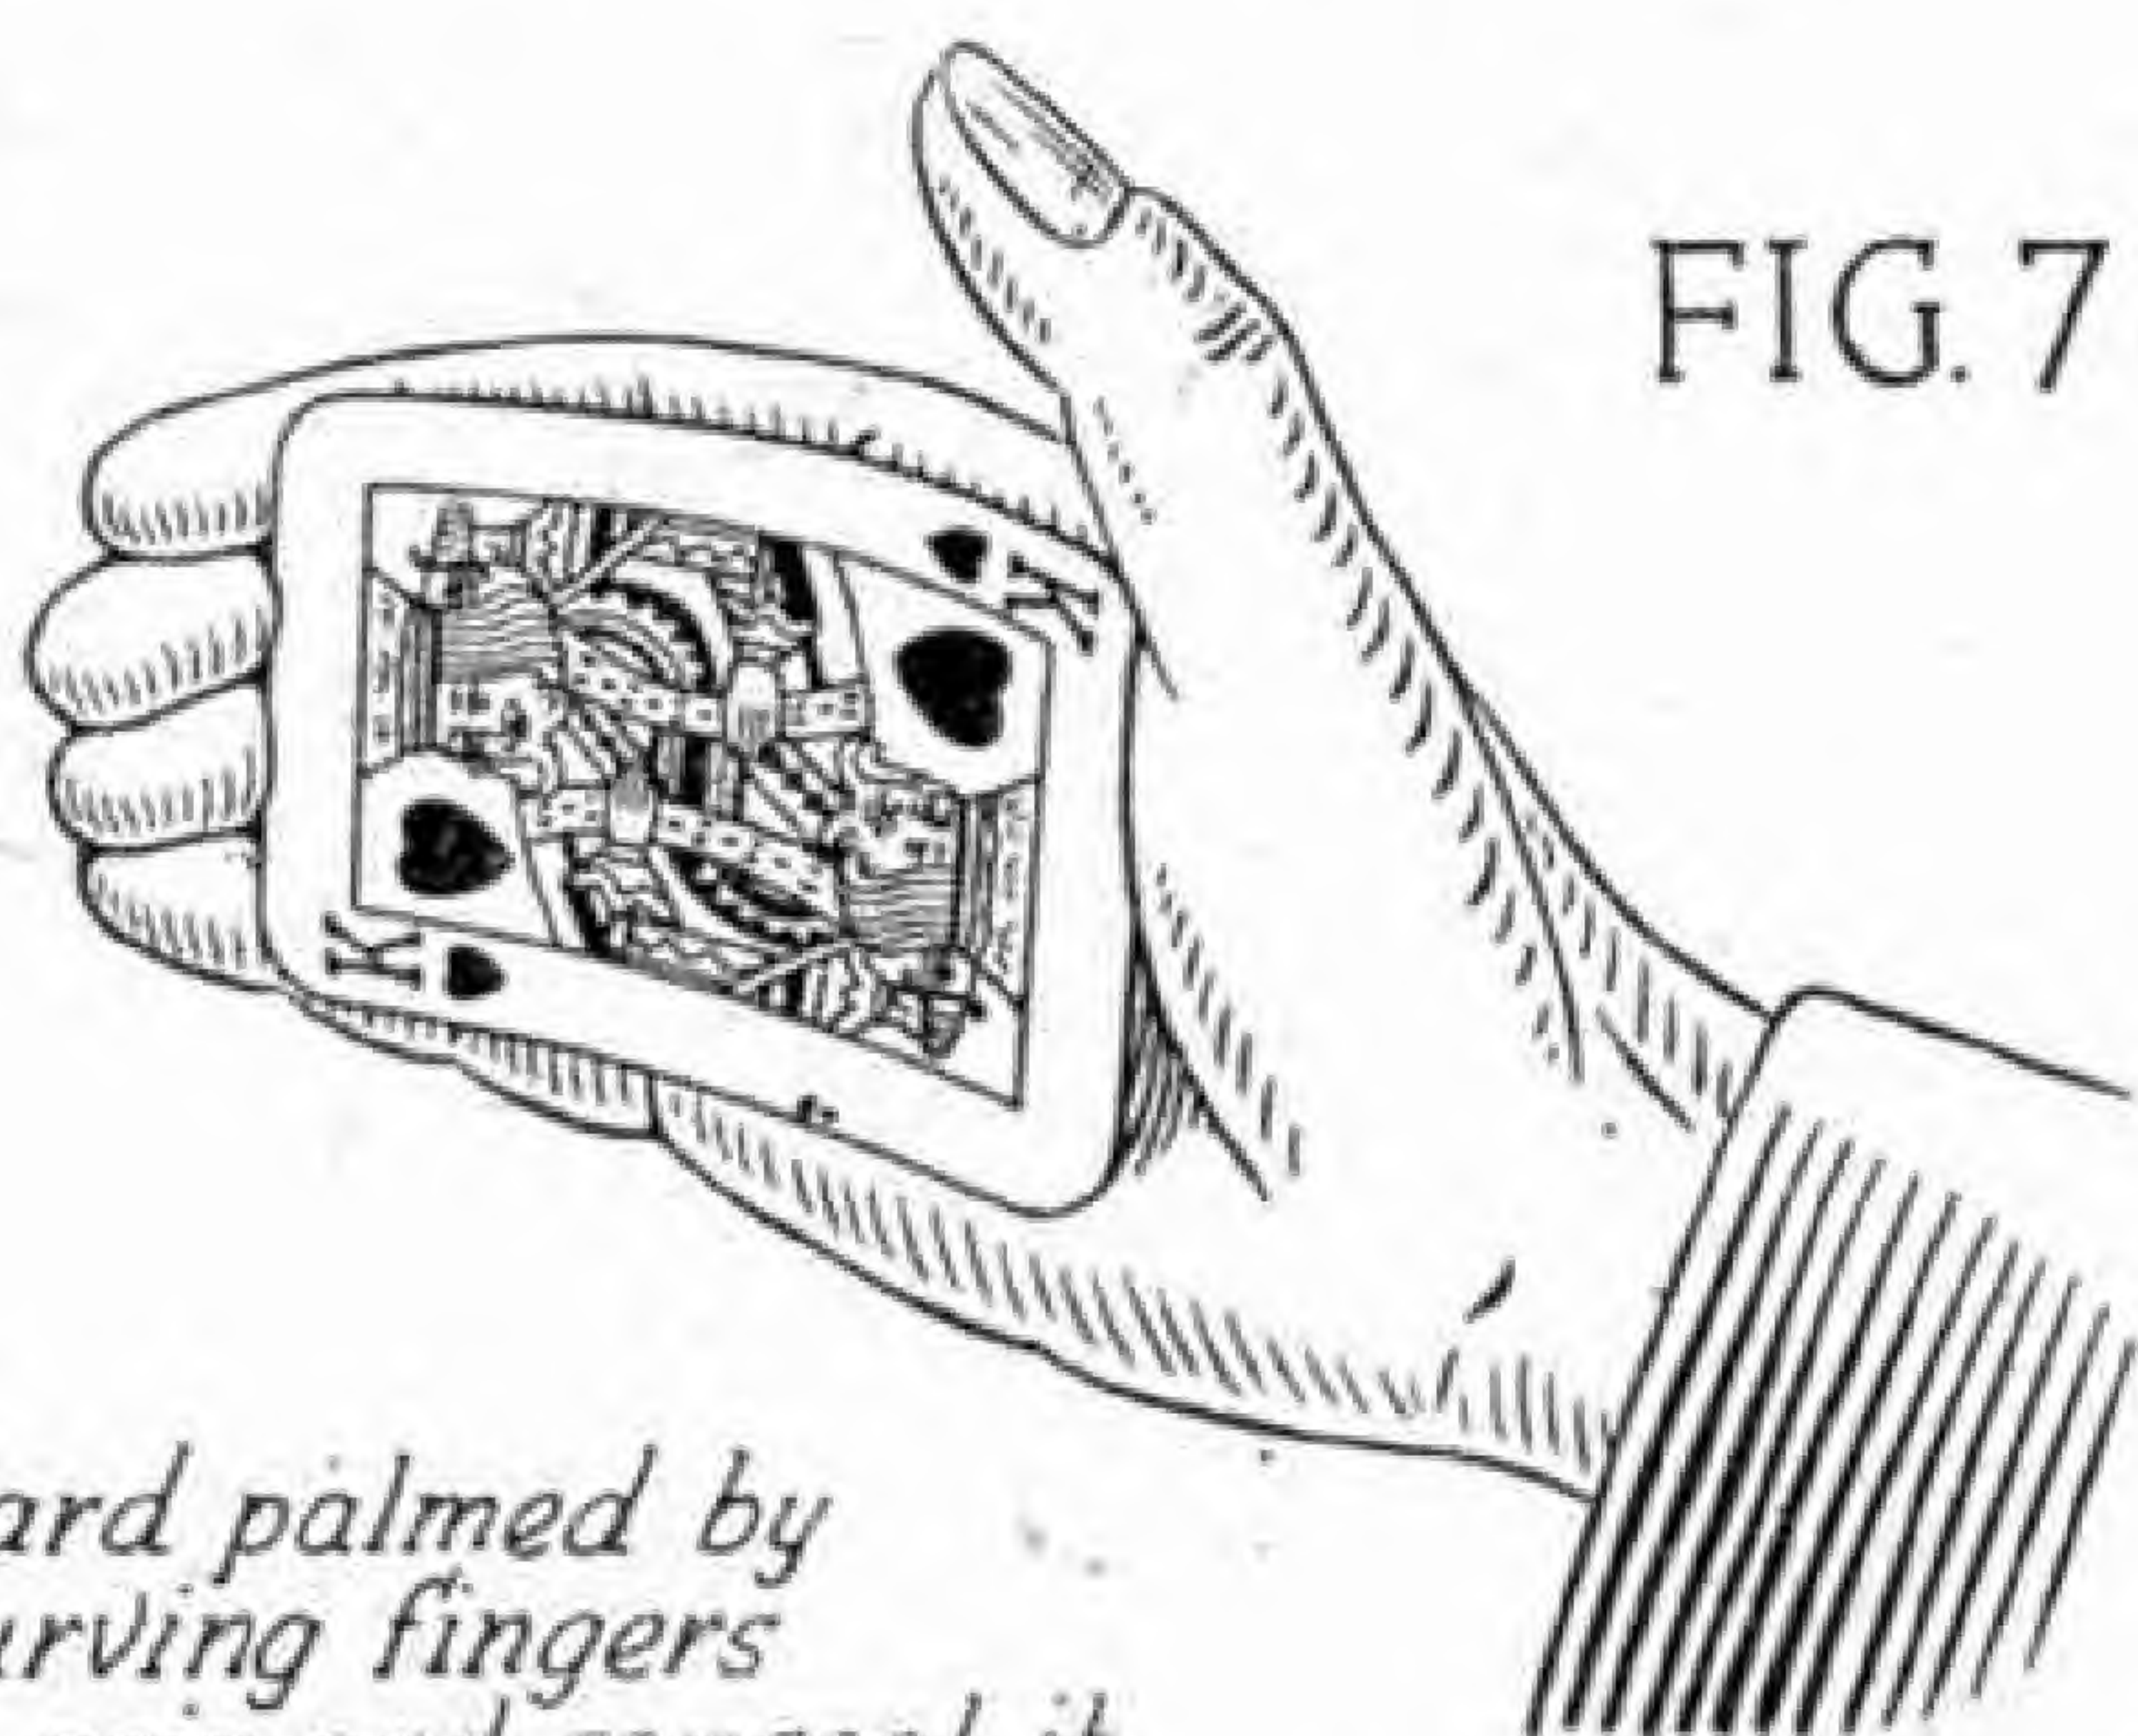

FIG. 7
**The Secret.** The pack is an ordinary one and there are no gadgets of any kind used. When you receive the pack, put it behind your back, take the bottom card, hold it up with its back to the audience so that they cannot see what card it is, and say "Here is the card you chose. I will put it in my pocket." You put the card in your trouser pocket, but immediately palm it and place it on top of the pack. Don't be afraid of that word "palm." It isn't as difficult to palm a card as it sounds. As you put the card in your pocket, simply place your hand flat over it and curve your fingers (Fig. 7). You will find it quite easy to conceal the card in your hand. If you have small hands, try to get hold of a pack of patience cards for the trick. As, however, you have to palm the card for only a moment, while you take your hand out of your pocket and lay it on the pack, there is very little likelihood of the card being seen, especially (Continued on page 430)